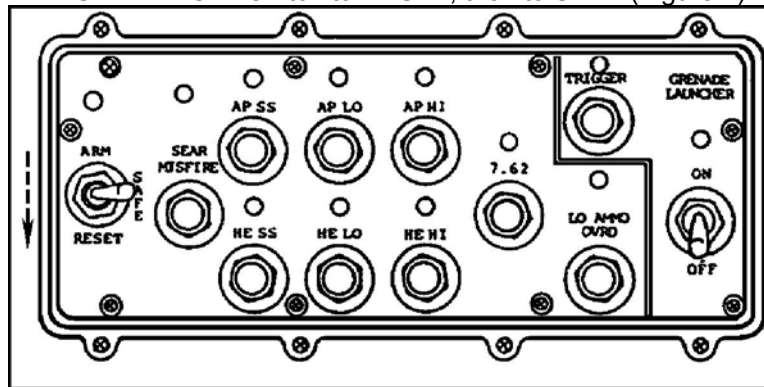

Figure 1. ARM-SAFE-RESET switch.
- a. Move the ARM-SAFE-RESET switch to RESET, then to SAFE (Figure 1).